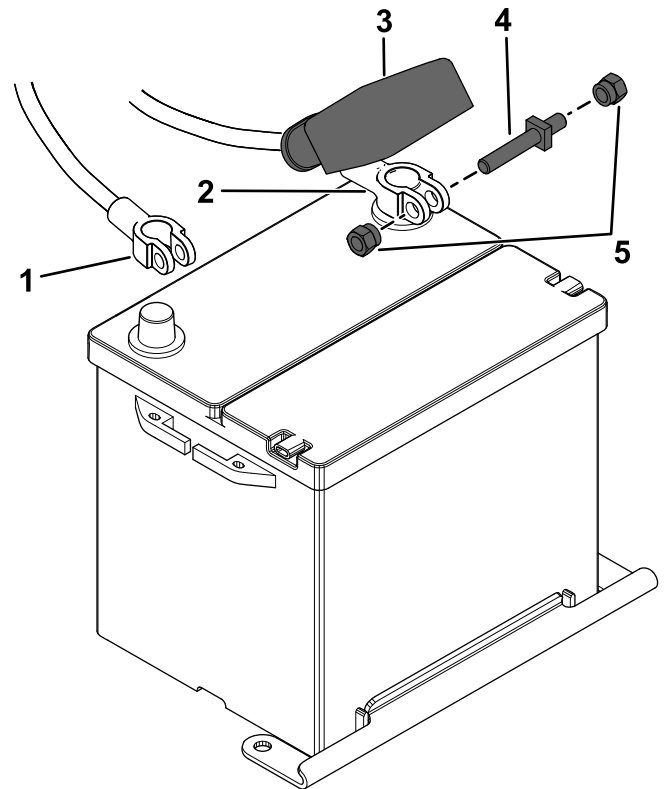

Figure 74
1. Disconnect the battery cables (Figure 74).
2. Connect the battery cables (Figure 74).